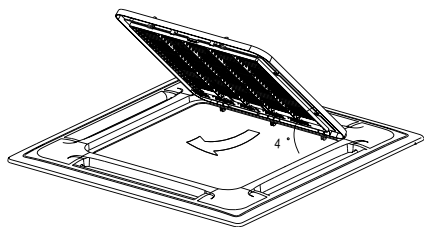

Fig.5-10
- Draw the grill up to an angle of about 45°, and remove it. (Refer to Fig.5-10)